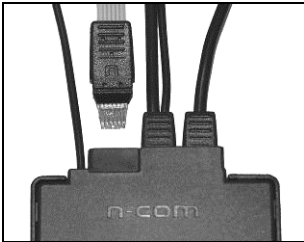

Fig. 40
- Line up the keypad flex connector to the e-box making sure that the letter "n" is pointing as shown in Fig. 40.
- N.B.** If the system does not work, remove the flex and repeat the previous operation, making sure that the "n" is positioned as in Fig. 40.